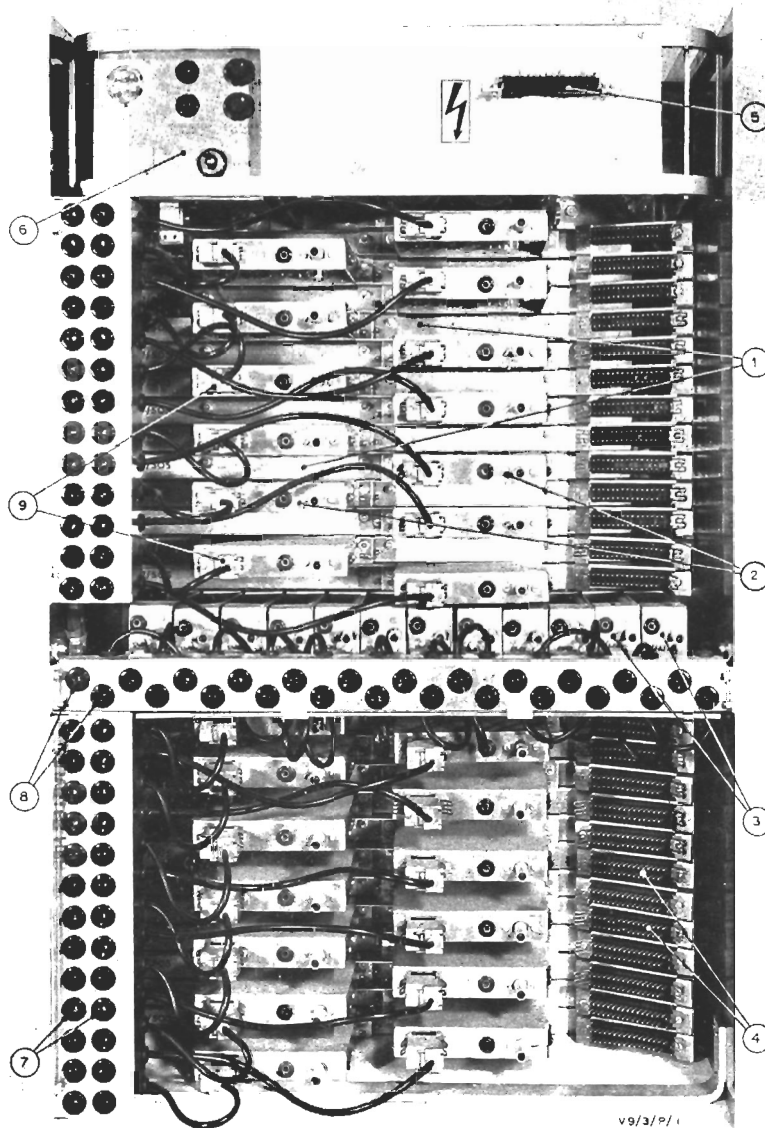

Fig. 3.1. Matrix Unit PA9/504: Rear View
Fig. 3.1 shows the rear view of a PA9/504 video matrix unit. The relay panels (1) are mounted horizontally across the framework. To provide reasonable clearance between the input amplifiers (2) and also to give better air flow and cooling, provision is made for alternative mounting positions so that these amplifiers form two vertical rows; the output amplifiers (3) are mounted in a horizontal row across the centre of the unit.